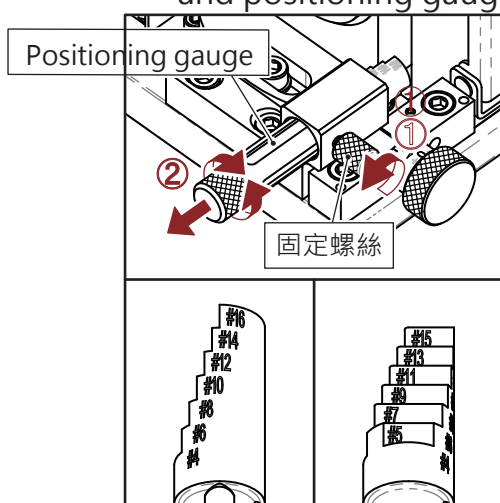

Fig. 5-2
3. According to the diameter of end mill, the positioning gauge with this specification faces upwards. (Fig. 5-2)
- ① Loosen the set screw of the positioning gauge counterclockwise.
- ② Pull out the positioning gauge to make it can be turned. Put the side of the positioning gauge with the specification facing up and push it in, and then slide the fixing screw into the groove of the positioning gauge.